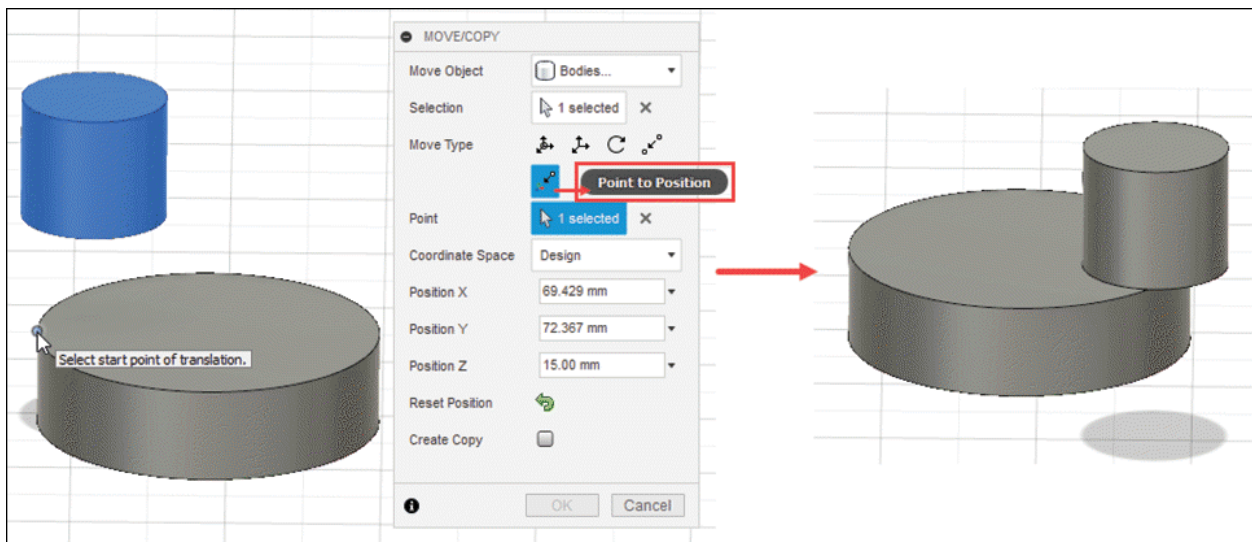

Figure-57. Point to Position tool in Move Type section
- Select a point of the body. The updated **MOVE/COPY** dialog box will be displayed; refer to Figure-57.